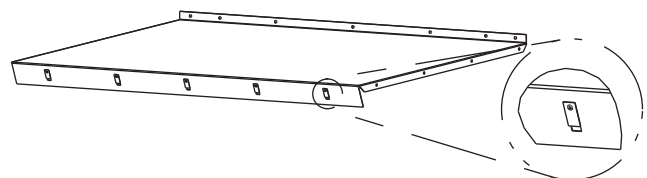

Fig. 26 — Top Hood with Speed Clips
4. Attach speed clips (provided) to hood top. Engagement section of the clip faces inside hood. See Fig. 26.